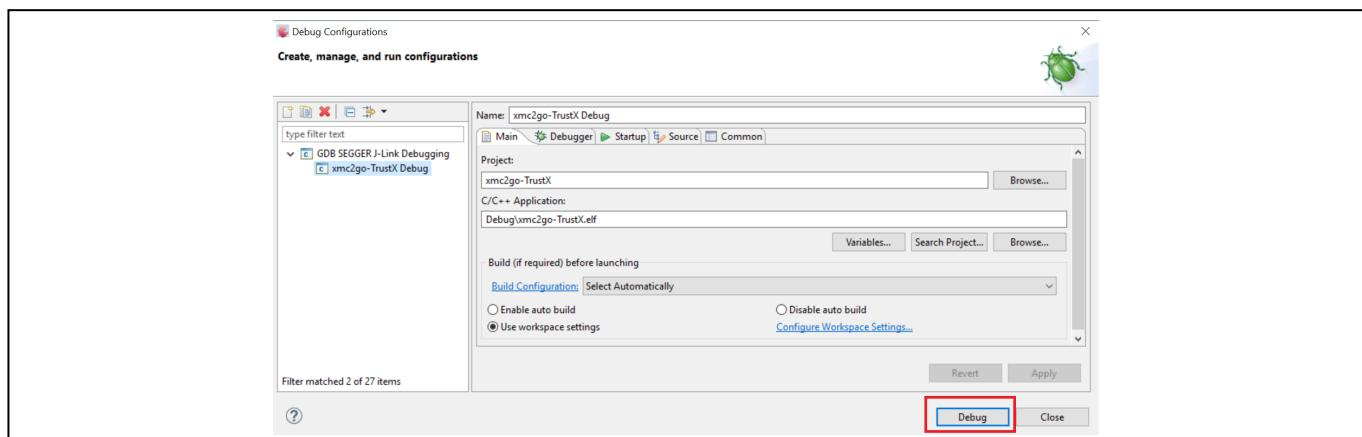

Figure 14 Initializing Debug Session
- Press Debug to initialize debug session as shown in **Figure 14**.